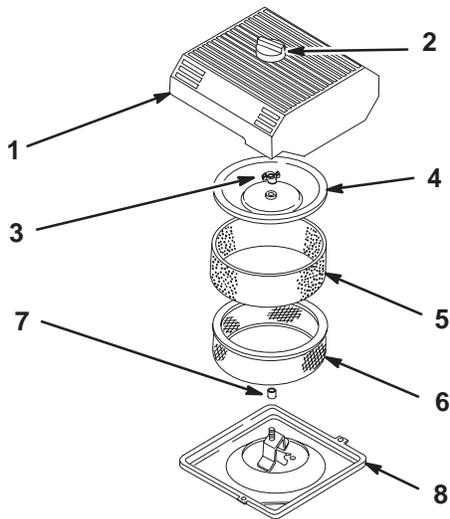

Figure 19
2. Clean around the air cleaner to prevent dirt from getting into the engine and causing damage (Fig. 19).
- Loosen the knob on the air cleaner cover and remove the cover (Fig. 19).
- Carefully slide the foam element off the paper element (Fig. 19).
- Unscrew the cover nut and remove the cover and paper element (Fig. 19).
- Carefully slide the foam element onto the paper air cleaner element (Fig. 19).
- Install the cover nut finger-tight against the cover (Fig. 19).
- Install the air cleaner cover and knob (Fig. 19).